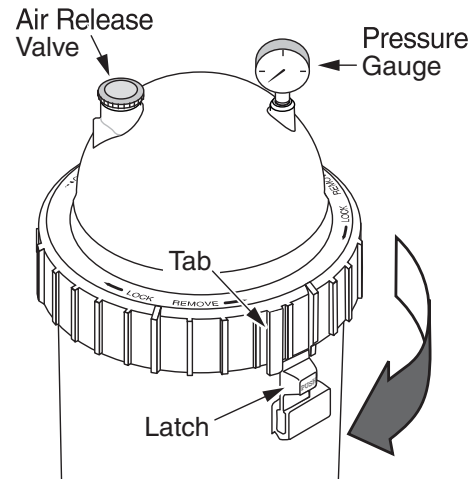

Figure 3 – Rotate Posi-Ring® until tab locks behind the safety latch.
1. Securely lock the Posi-Ring® in place by rotating it CLOCKWISE until it “clicks” past the safety latch (see Figure 3). Stop turning as soon as the ring clicks past the latch. The ring may feel slightly loose, but it will tighten up when pump is on and filter is under pressure.
2. Install the pressure gauge and the air release valve (See Figure 3) on the tank lid.
- C. Rotate the Posi-Ring® clockwise until it locks behind the safety latch (see Figure 3).